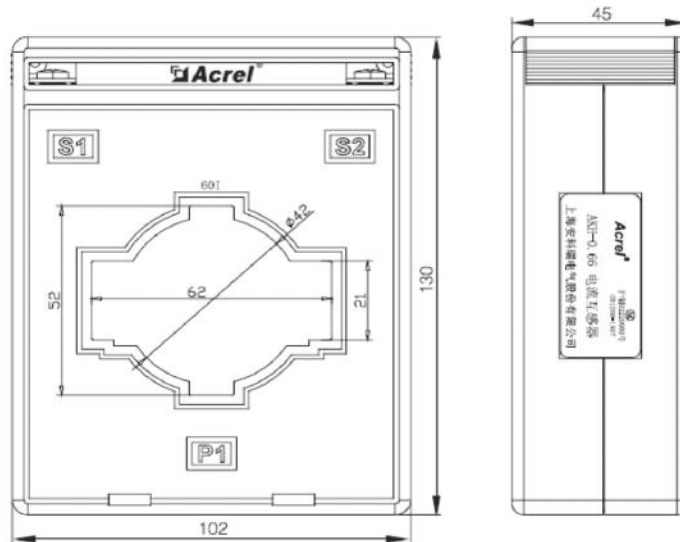

Fig. 7 External dimensions of current transformer 800A
5.4.3 The external dimensions of the current transformer (800A) are shown in FIG. 7 (unit: mm) : The current specification of the protector is 800A and the current transformer is not equipped with secondary connection. One protector is equipped with three transformers.